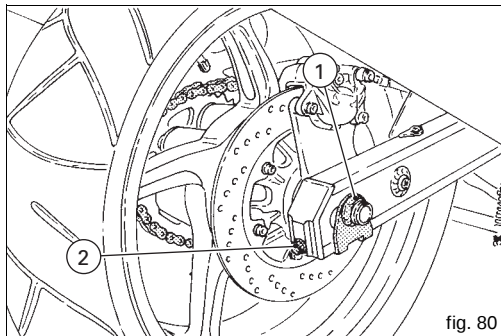

fig. 80
Slacken the nut (1, fig. 80) of the wheel shaft, tighten (turn clockwise) or slacken the screw (2) on either side of the swingarm equally to increase or reduce chain tension. If you are slackening the chain, you will have to push the wheel forward.